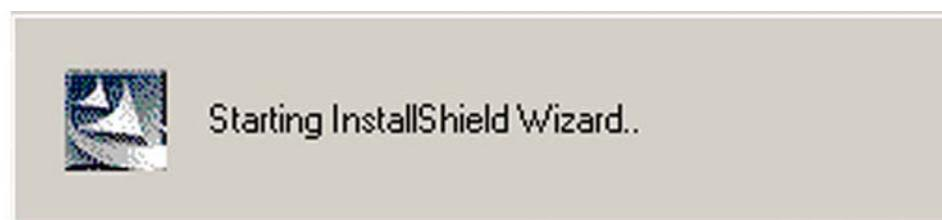

Figure 7-8: Audio Driver Install Shield Wizard Starting
Step 7: The **InstallShield** is activated. (See **Figure 7-8**.)